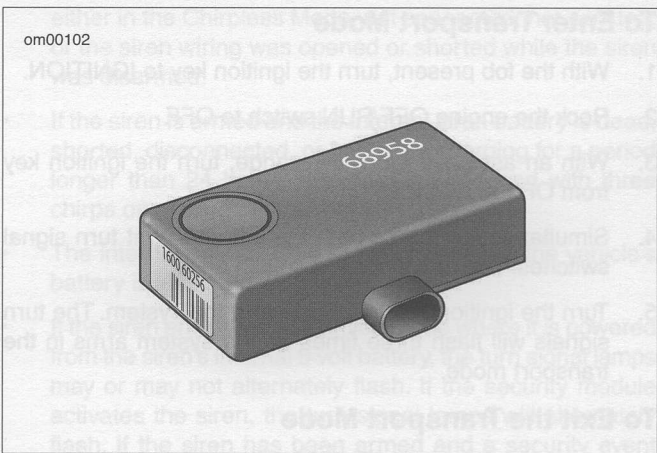

Figure 39. Optional Smart Siren
- See Figure 39. Sound the optional siren.